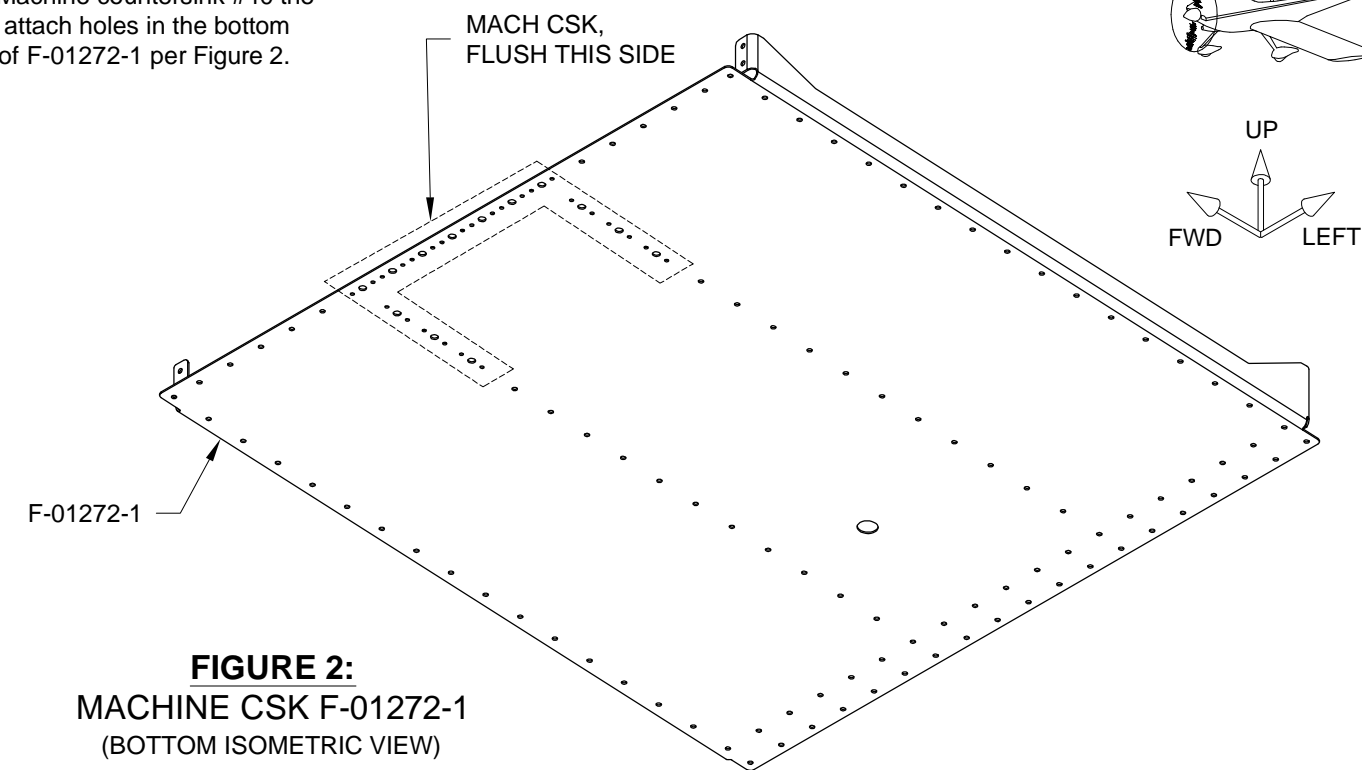

FIGURE 2: MACHINE CSK F-01272-1 (BOTTOM ISOMETRIC VIEW)
Step 3: Machine countersink #40 the nutplate attach holes in the bottom surface of F-01272-1 per Figure 2.